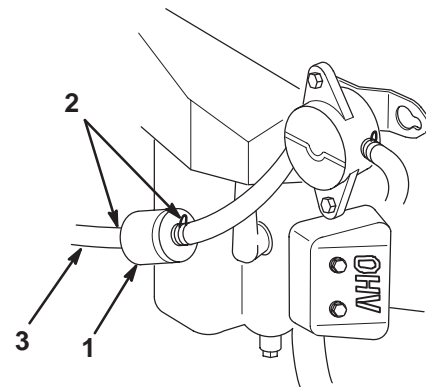

Figure 28
3. Squeeze the ends of the hose clamps together and slide them away from the filter (Fig. 28).
5. Install a new filter and move the hose clamps close to the filter (Fig. 28).
3. Loosen the hose clamp at the fuel filter and slide it up the fuel line away from the fuel filter (Fig. 28).
4. Pull the fuel line off of the fuel filter (Fig. 28).
6. Install the fuel line onto the fuel filter. Slide the hose clamp close to the fuel filter to secure the fuel line (Fig. 28).